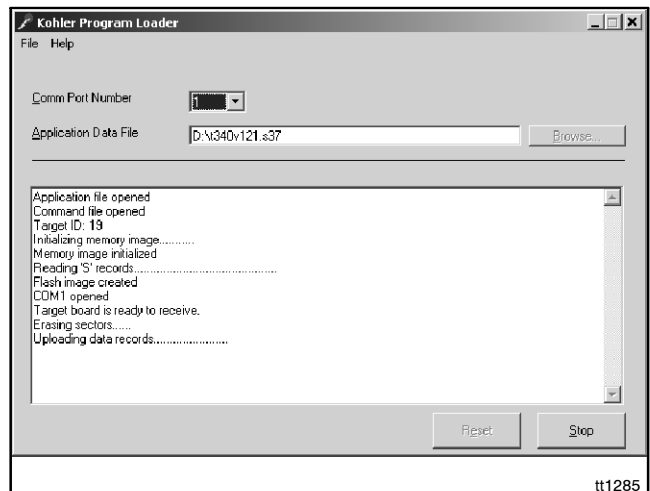

Figure 19 Program Loader Screen
2. Enter the number of the computer's COM port (number 1 through 16) that is connected to the controller through the communication cable. See Figure 19.